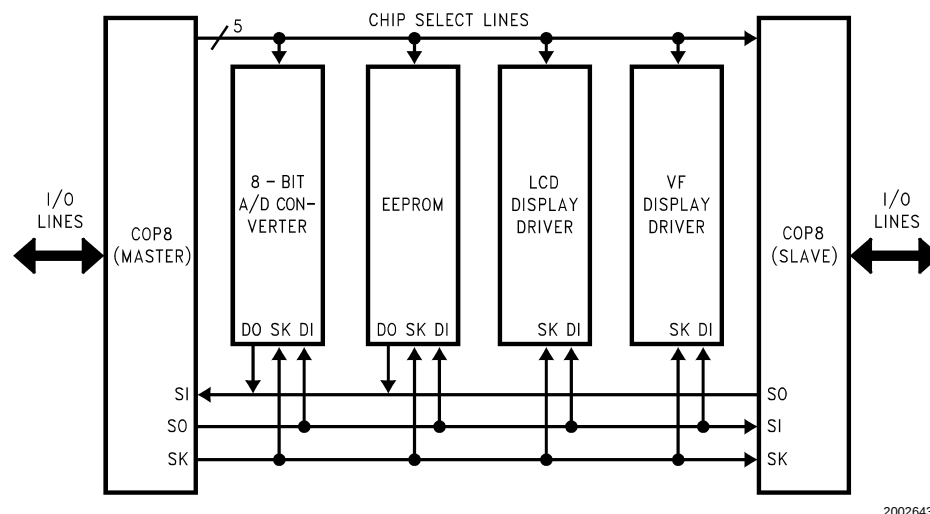

FIGURE 26. MICROWIRE/PLUS Application
MICROWIRE/PLUS is a serial SPI compatible synchronous communications interface. The MICROWIRE/PLUS capability enables the device to interface with MICROWIRE/PLUS or SPI peripherals (i.e. A/D converters, display drivers, EEPROMs etc.) and with other microcontrollers which support the MICROWIRE/PLUS or SPI interface. It consists of an 8-bit serial shift register (SIO) with serial data input (SI), serial data output (SO) and serial shift clock (SK). *Figure 26* shows a block diagram of the MICROWIRE/PLUS logic.
Setting the BUSY bit in the PSW register causes the MICROWIRE/PLUS to start shifting the data. It gets reset when eight data bits have been shifted. The user may reset the BUSY bit by software to allow less than 8 bits to shift. If enabled, an interrupt is generated when eight data bits have been shifted. The device may enter the MICROWIRE/PLUS mode either as a Master or as a Slave. *Figure 26* shows how two microcontroller devices and several peripherals may be interconnected using the MICROWIRE/PLUS arrangements.